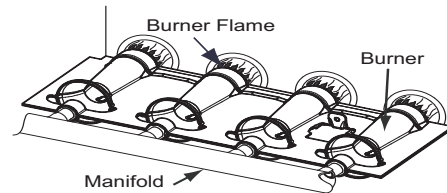

Fig. 60 – Burner Flame
- i. When correct input is obtained, replace cap that conceals gas valve regulator adjustment screws. Main burner flame should be clear blue, almost transparent See Fig. 60.